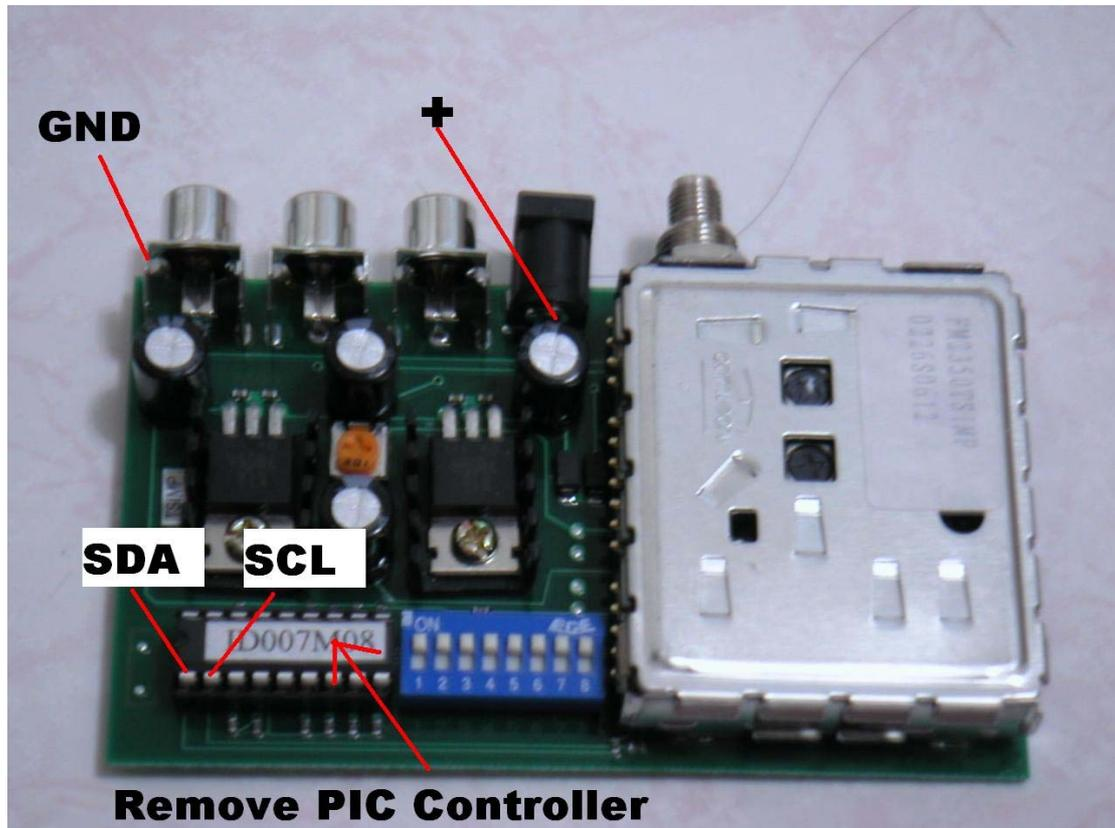

Figure 27: DFM24350TSIMP Board.
1. Remove the PIC Controller as indicated in Figure 27.
2. Solder the **BLACK** wire from the LCD Board labeled **GND** to the **GND** of the TSIM1W Board, indicated in Figure 27.
3. Solder the **RED** wire from the LCD Board labeled **POWER SUPPLY** Transmitter to the + indicated in Figure 27.
4. Solder the **BLUE** wire from the LCD Board labeled **SDA** Transmitter to the **SDA** indicated in Figure 27 (Pin 1 PIC).
5. Solder the **YELLOW** wire from the LCD Board labeled **SCL** Transmitter to the **SCL** indicated in Figure 27 (Pin 2 PIC).